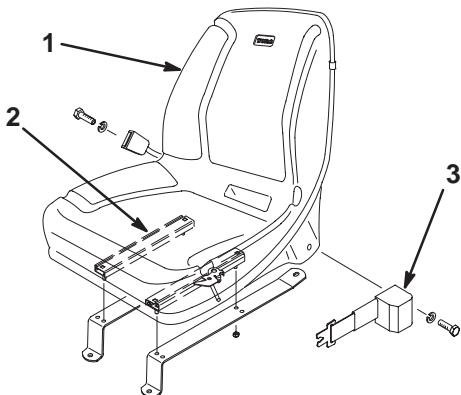

Figure 4
1. Seat mounting strap (2) 2. Spacer (2)
2. Secure the seat mounting straps to the seat adjusters with 4 flange nuts (standard seat) or 4 bolts, flat washers, and flange nuts (deluxe seat) (Fig. 4). The mounting fasteners are supplied with the seat kits.
3. Attach the seat belt to the holes on each side of the seat with 2 bolts and lockwashers (standard seat) or 2 bolts and locknuts (deluxe seat) (Fig. 4). All mounting fasteners are supplied with the seat kits.